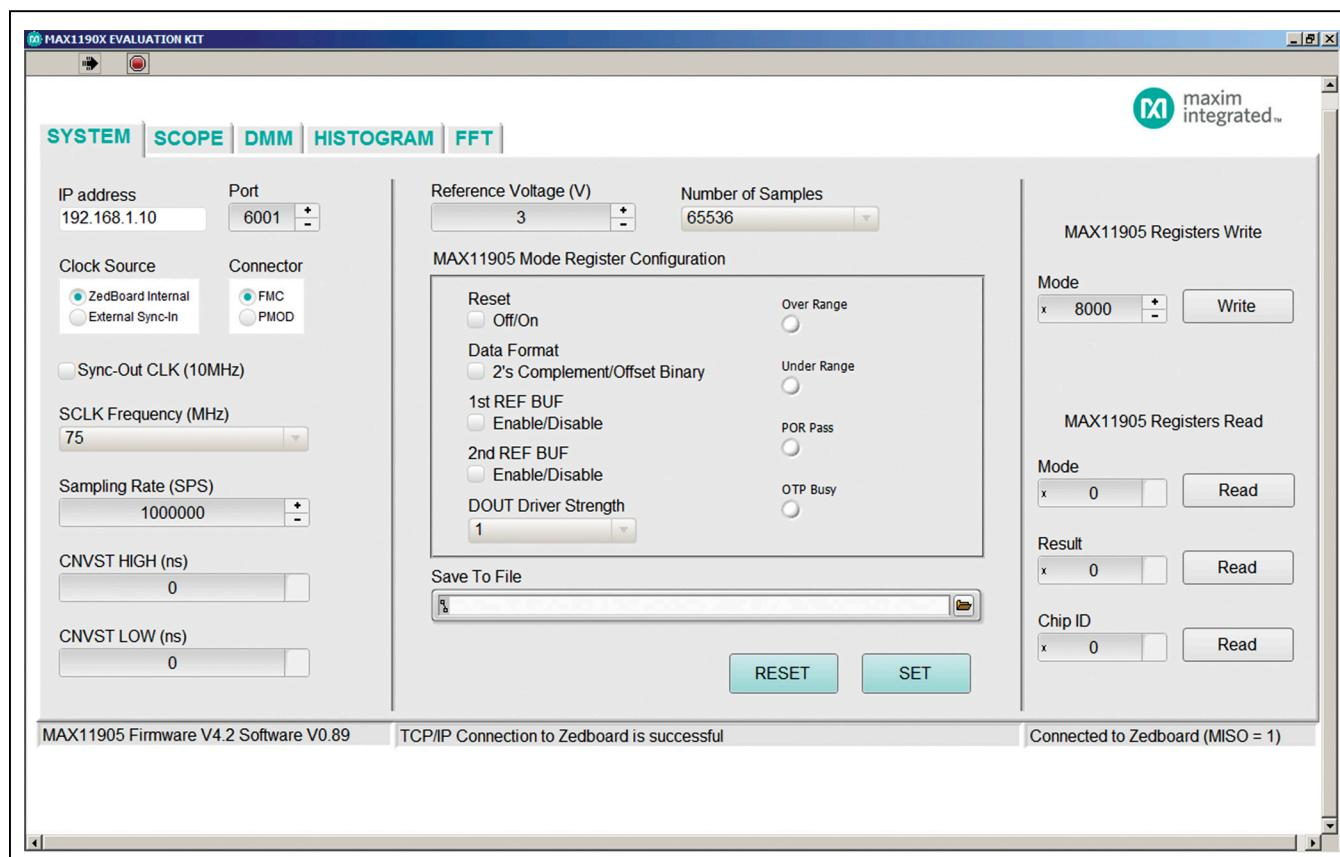

Figure 1. MAX1190X EV Kit Main Window (SYSTEM Tab Sheet)
- 17) Open the EV kit GUI and click on the **run** arrow (\rightarrow) button at the top of the GUI screen (see Figure 1).
When all connections are made on the system and are fully powered, the **SYSTEM** tab sheet displays the correct IP address, port, and the lower status bar displays as shown Figure 1. These are all indicators that the system and GUI are ready for communication.